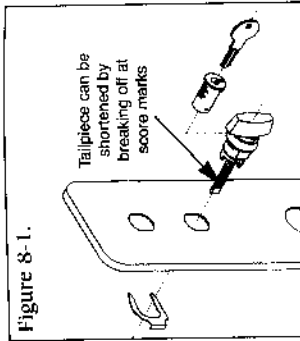

Figure 8-1.
- 1• Insert the passage set plug assembly on the turn knob into the opening in the trim plate and retain it with the clip from inside (see Figure 8-1).